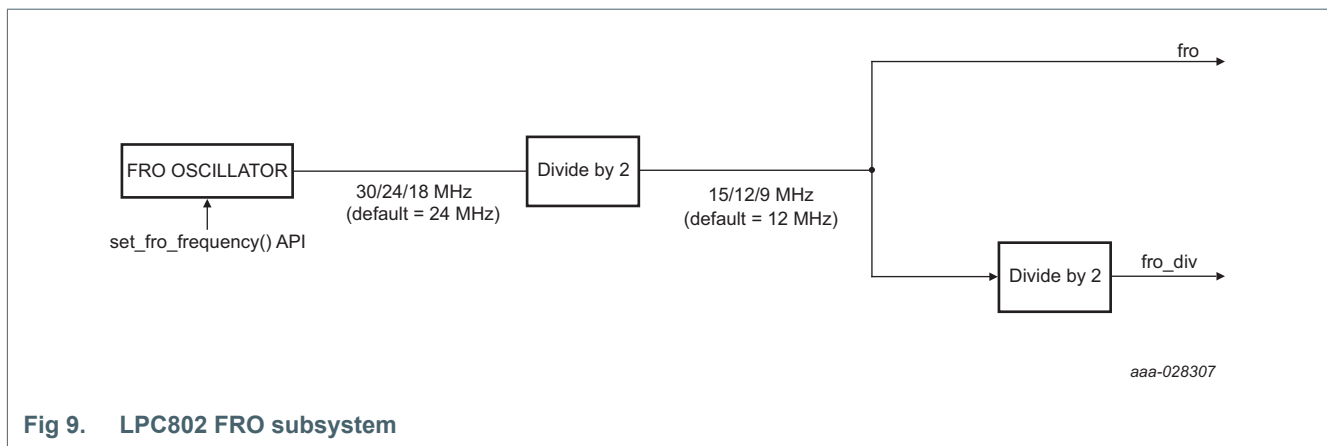

Fig 9. LPC802 FRO subsystem
2. Select the fro\_oscout (30 MHz/24 MHz/18 MHz) using the set\_fro\_frequency API call: Chapter 7 “LPC802 FRO API ROM routine” and Figure 9 “LPC802 FRO subsystem”.
fro_div	Divided output of the currently selected on-chip FRO oscillator. See <a href="#">Figure 9 “LPC802 FRO subsystem”</a> .
fro	The output of the currently selected on-chip FRO oscillator. See <a href="#">Figure 9 “LPC802 FRO subsystem”</a> .